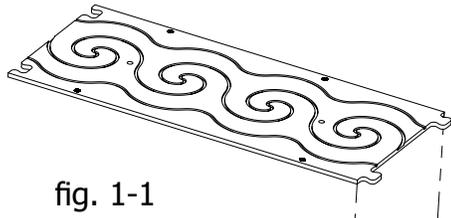

fig. 1-1
**Step 1-1:** Attach the pattern template as you would a two puzzle pieces. Simply place one template above the other and slip the tabs into each other. (See fig. 1-1)